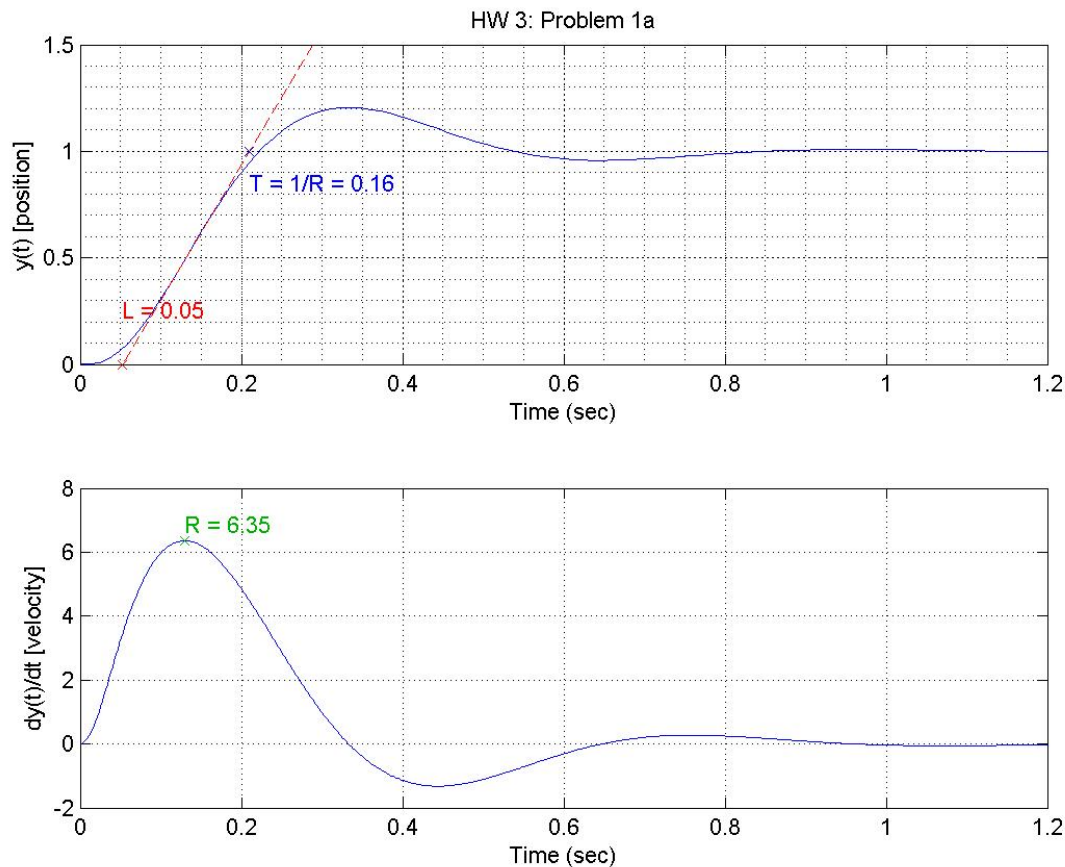

Figure 3.1a – Open-loop system step response. Position (top) and velocity (bottom) are both shown.
**Ziegler-Nichols first method.** This method simply requires estimating two values from a unit step response for the open-loop system. To do so, we first draw a tangent line at the inflection point in the S-shaped unit step response for the open-loop system, as shown by the dashed line in Figure 3.1a. Note that the inflection point is the location with the peak slope (i.e., highest velocity). Next, estimate the following time parameters: 1) The location, “L”, in which a tangent
line drawn at the inflection point intersects the time axis. 2) The time between the intersection of the tangent line with  $y=0$  and with  $y=1$ , which we will call “T”. Note also that  $T=1/R$  (with units adjusted appropriately), where R is the peak velocity (i.e., the velocity at the inflection point). Once L and T have been estimated (this has been done for you in Figure 3.1a...), the suggested gains for the PID controller are then:
**a)** For part a, L and T are clearly labeled in Figure 3.1a. For simulation purposes, assume that the open loop plant for Figure 3.1a is given by the following transfer function: